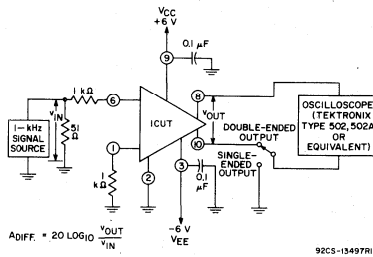

Fig. 6
*A = SINGLE-ENDED VOLTAGE GAIN AS MEASURED IN CIRCUIT SHOWN IN FIG. 6